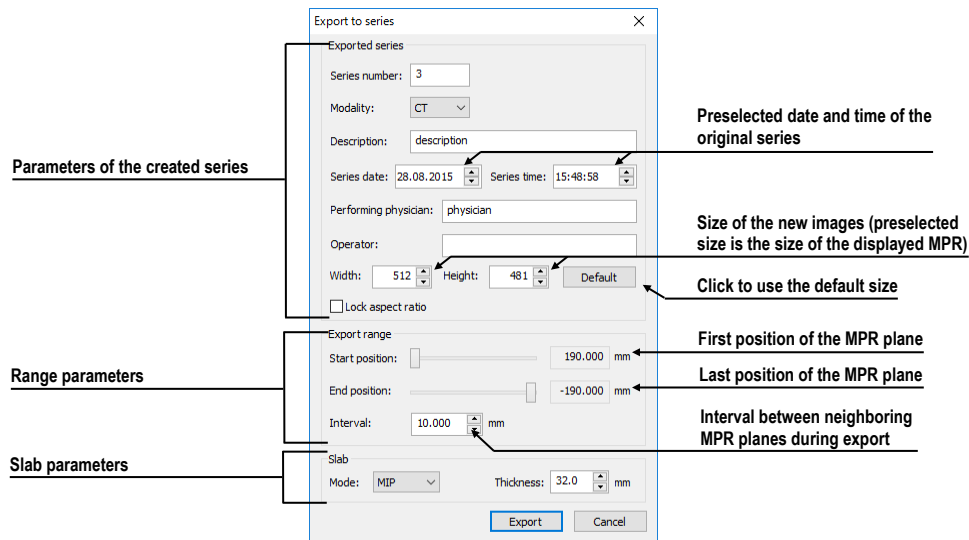

Figure 308 – Export to series dialog
3. The **Export to series** dialog will be displayed in which you can set the parameters for MPR export (see Figure 308).